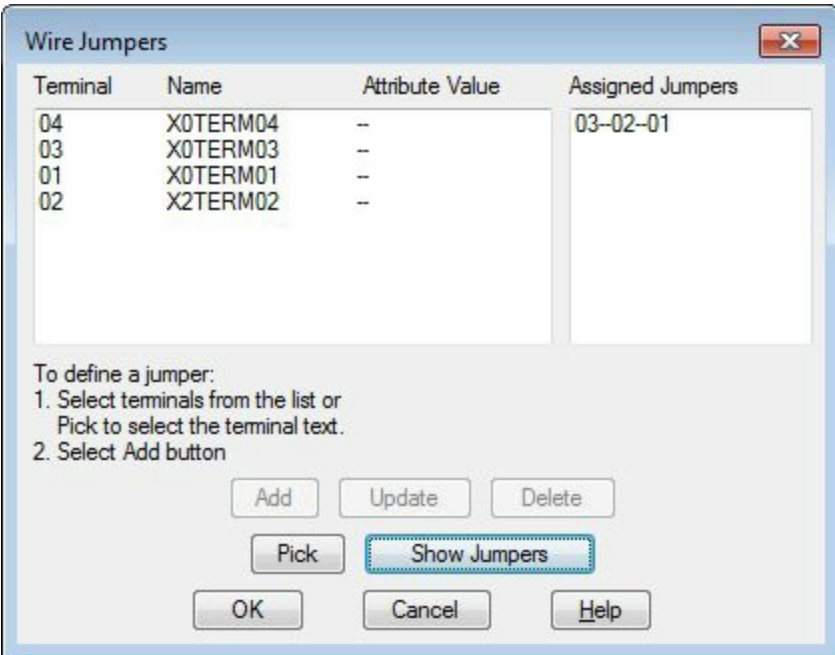

Figure-10. Wire Jumpers dialog box with assigned jumpers
- Click on the **Add** button from the dialog box. The jumper will be connected to the selected terminals and will be listed in the **Assigned Jumpers** area of the dialog box; refer to Figure-10.